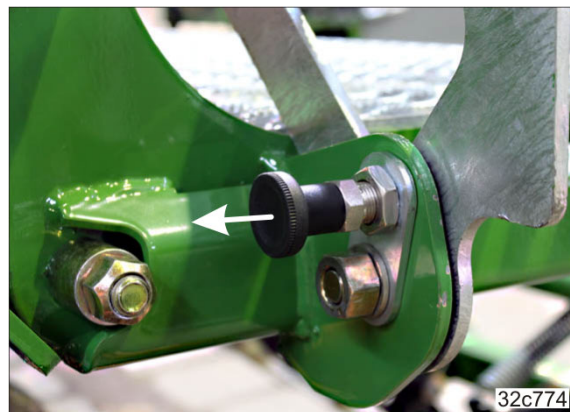

Fig. 142
**A latch (Fig. 142) represents the mechanical transport locking mechanism for the steps.**